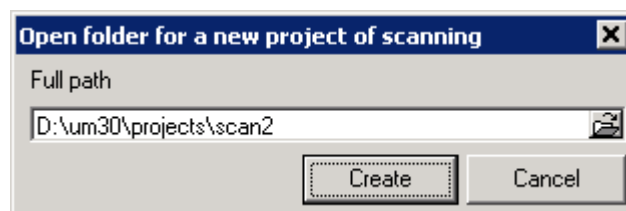

Figure 2.2. New project dialog
3. Input the full path to the scanning project, including project name, see Fig. 2.2.